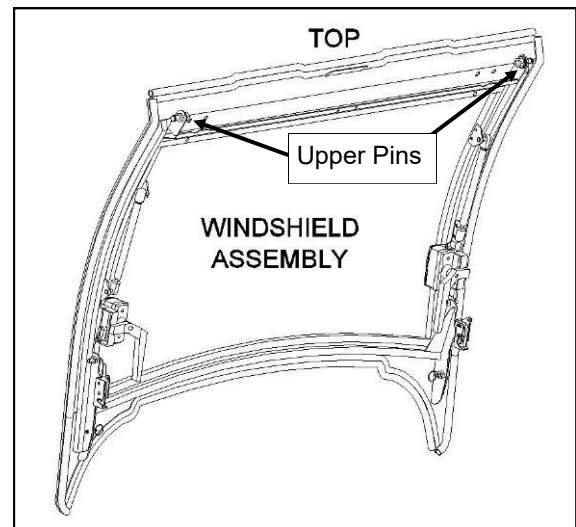
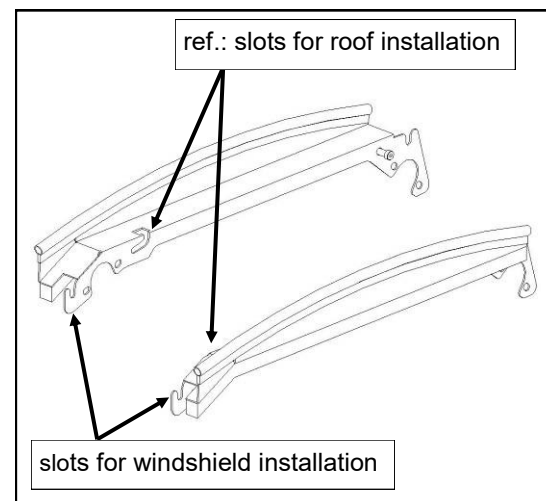

Fig. 3.1 (contents of windshield kit)
Fig. 3.2 (description of slot usage)
3.1 Fig. 3.1 shows the only item included in the windshield kit. Note: inside view of windshield assembly shown.
3.2 Orient the windshield as shown in fig. 3.1. Hook the two upper pins into the receiving slots in the front of the upper mounts (see fig. 3.2). Snap the lower two latches onto the pins on the inside of the front mounts until they are fully engaged. Two (2) clicks means fully engaged. If adjustment is needed, use a 3/16" Allen wrench and a 1/2" open ended wrench to reposition the pin in the slotted front mount.